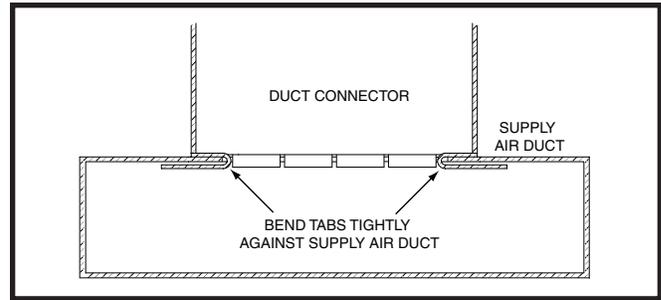

Figure 8. Duct Connector Tabs
- Bend the connector tabs on the bottom of the duct connector upwards and as tight as possible against the supply air duct. See Figure 8.